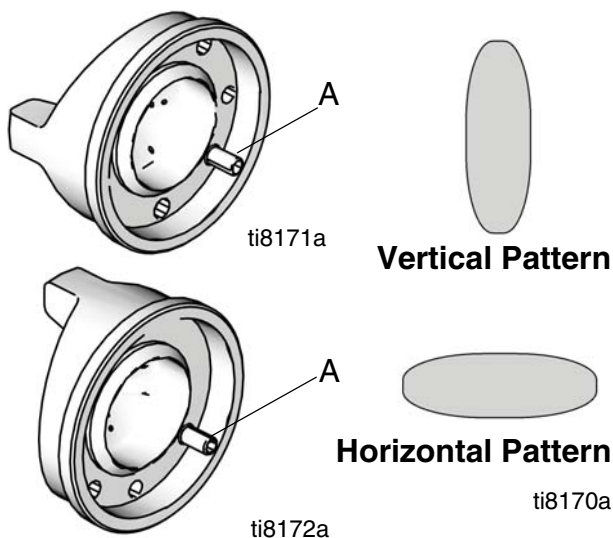

FIG. 10: Position Air Cap
Air caps are factory-set with the alignment pin (A) set to a vertical spray pattern. To change the air cap to a horizontal spray pattern, use a 1/16 in. hex wrench to unscrew the alignment pin (A) and relocate it to the horizontal spray pattern hole. When relocating the pin use low strength thread locker. Torque to 1.5-2.5 in-lb (0.2-0.3 N•m). **Do not overtighten**. Refer to FIG. 10.